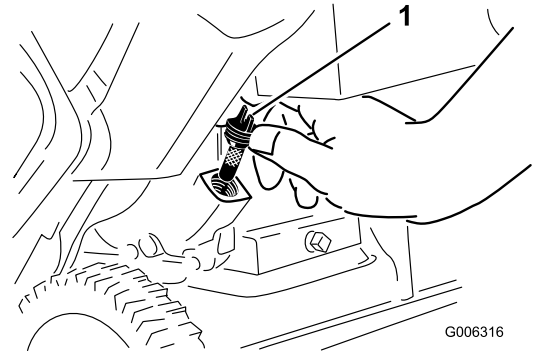

Figure 8
2. Clean around the oil-fill cap (Figure 8).